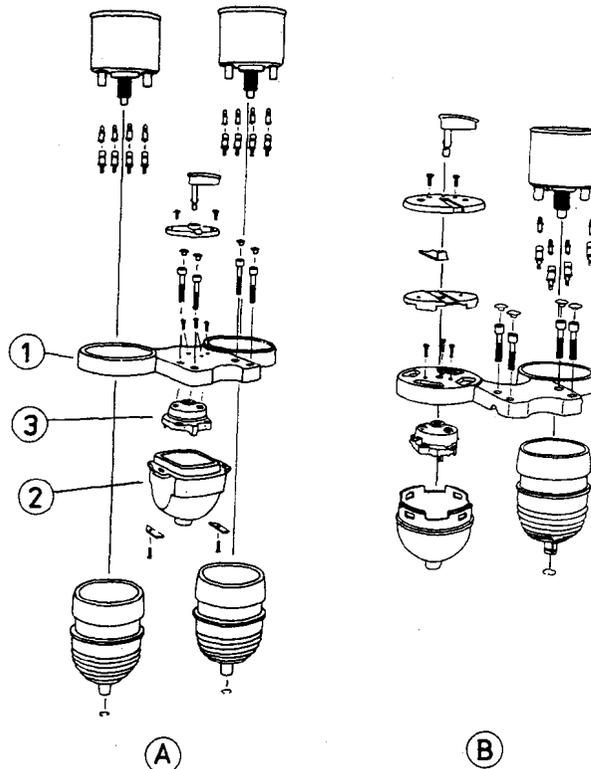

Fig. 177. Exploded view of instrument pod (A) deluxe model (B) standard design
Demounting and mounting the ignition-light switch is illustrated in Fig. 177. In the deluxe model (A in Fig. 177), the instrument pod (1) must be unscrewed from the upper clamping head. Then, the covering cap (2) and the ignition-light switch will be accessible.